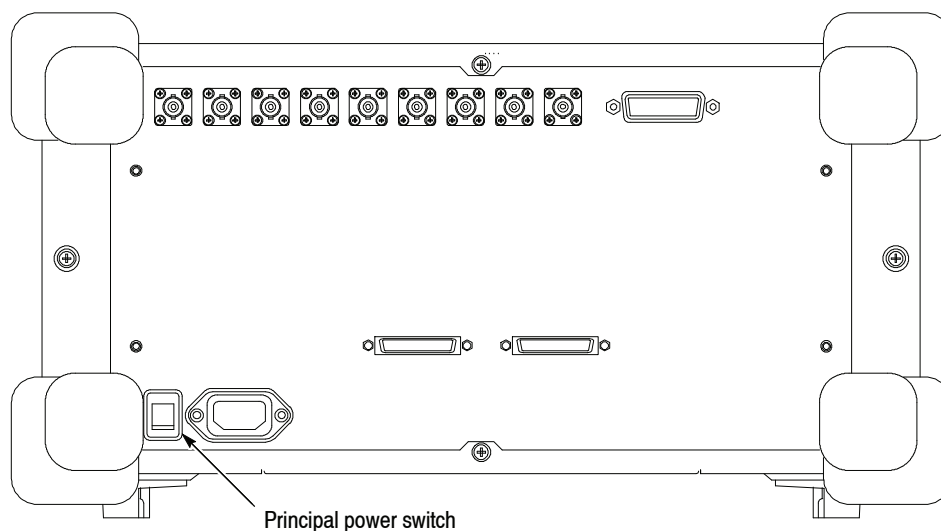

Figure 2-27: Principal power switch (rear panel)
2. Turn on the principal power switch (**PRINCIPAL POWER SWITCH**) on the rear panel, as shown in Figure 2-27. The orange LED on the front panel lights.